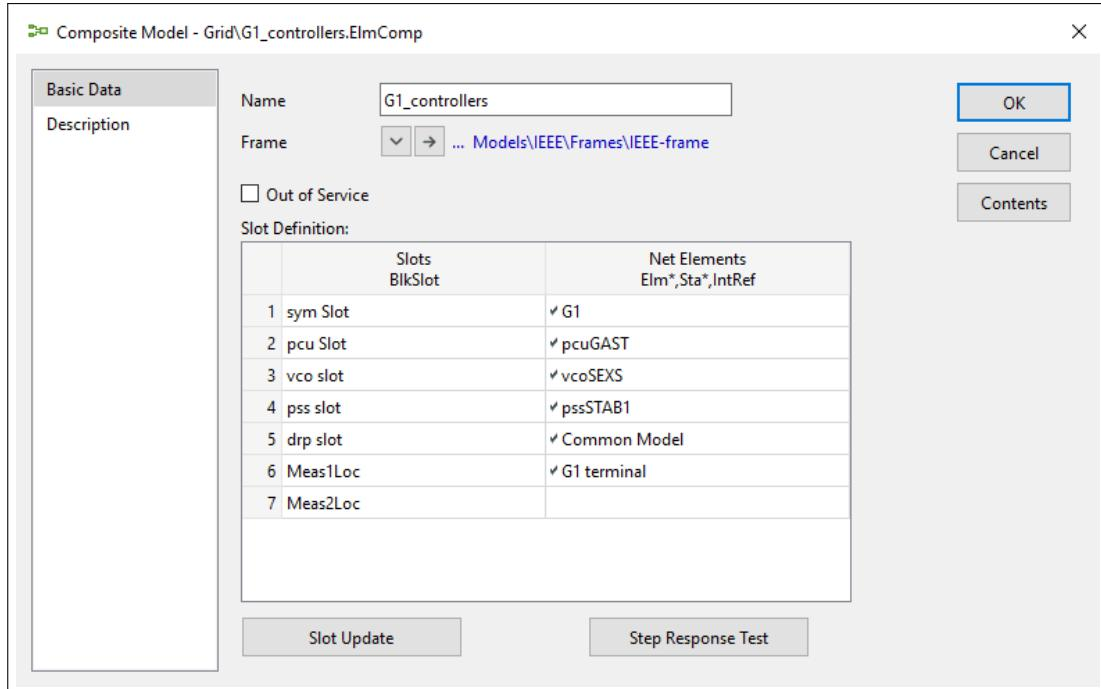

Figure 30.1.2: Example of a Composite Model Using the Frame “Frame\_Generator”
- The **Composite Model** (*ElmComp*), Figure 30.1.2, references the definition of a composite frame. This composite frame is basically a schematic diagram containing various empty slots, in which controller or elements can be assigned. These slots are then interconnected according to the diagram, see Section Composite Block Definitions (part of Section 30.3.3: Defining DSL Models). The slots in the composite frame are pre-configured for specific transient models.